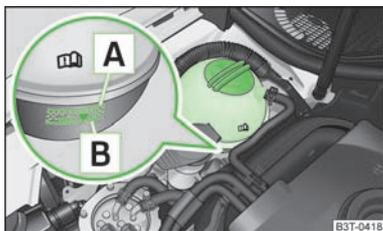

Fig. 138
When refilling, we only recommend you use the same antifreeze written on the antifreeze expansion tank » Fig. 138.
- Check the level of coolant in the coolant expansion bottle » Fig. 138. The coolant level when the engine is cold must lie between the  (MIN) and  (MAX) markings. The level may also rise slightly above the  (MAX) marking when the engine is warm.
- Place a cloth over the cap of the coolant expansion reservoir » Fig. 138 and unscrew the cap **carefully**.
Do not fill the coolant above the mark  (max.) » Fig. 138! Excess coolant heats up and then is forced out of the cooling system through the pressure relief valve in the cap.